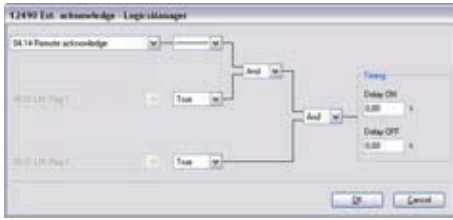

Fig. 178: LogicManager function "Ext. acknowledge"
3. ➤ Configure the LogicManager function "Ext. acknowledge" as shown in (Fig. 178).